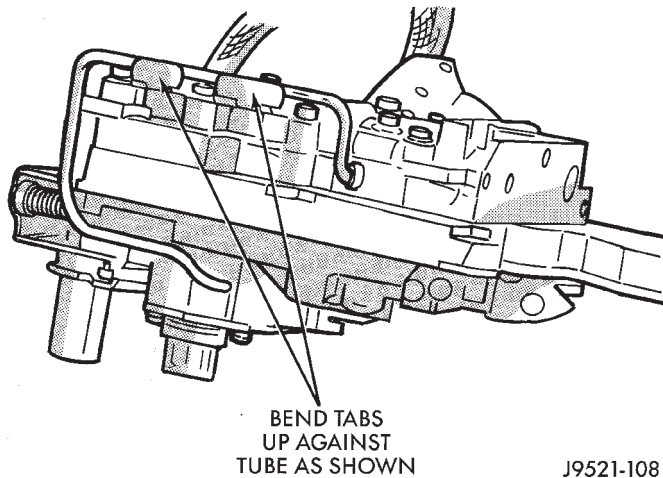

Fig. 86 Securing Boost Valve Tube With Brace Tabs
(7) Bend tube brace tabs up and against tube to hold it in position (Fig. 86).
(8) Tighten all valve body housing screws to 4 N·m (35 in. lbs.) torque after tube and brace are installed. Tighten screws in diagonal pattern starting at center and working outward.